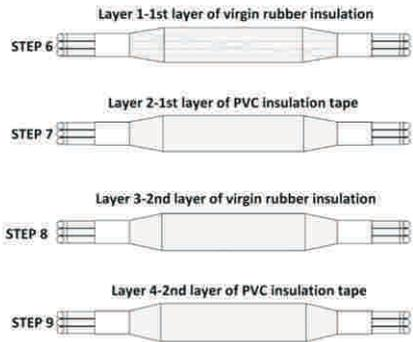

Fig.4 Cable Joints for Underwater Application
**Refer to sequence shown in Fig.4 below for insulating the cable joint for under water application:**